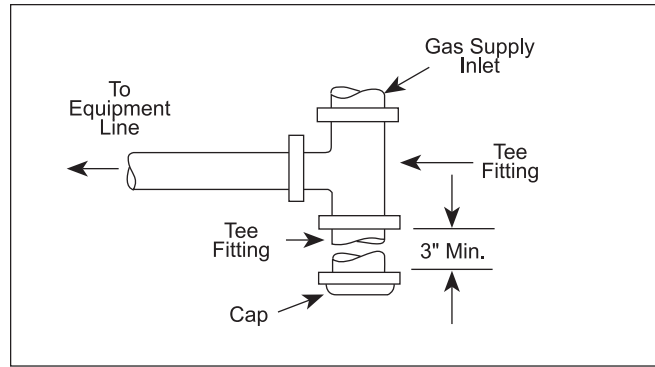

Figure 5. Tee Fitting Sediment Trap.
- A trap (drip leg) must be provided ahead of the gas controls (see Figure 5). Where required by code, provide a second manual gas shutoff valve. Do not remove manual valve furnished with the unit.